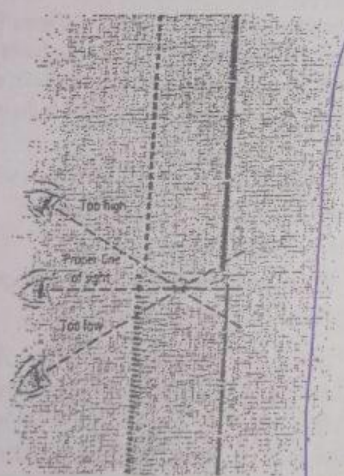
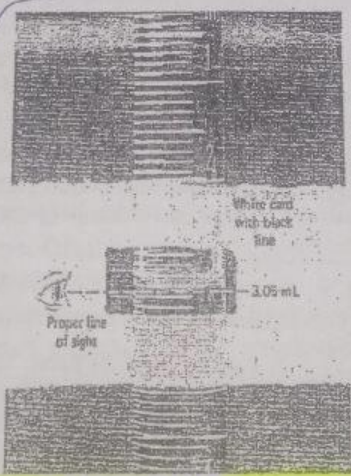

Figure T.16a Read the volume of a liquid with the eye horizontal to the bottom of the meniscus.
Figure T.16b Use a black line drawn on a white card to assist in pinpointing the location of the bottom of the meniscus.
1. **Reading a Meniscus.** For measurements of liquids in graduated cylinders, pipets, burets, and volumetric flasks, the volume of a liquid is read at the *bottom of its meniscus*. Position the eye horizontally at the bottom of the meniscus (Figure T.16a) to read the level of the liquid. A clear or transparent liquid is read more easily, especially in a buret, by positioning a black mark (made on a white card) behind or just below the level portion of the liquid. The black background reflects off the bottom of the meniscus and better defines the level of the liquid (Figure T.16b). Substituting a finger for the black mark on the white card also helps in detecting the bottom of the meniscus but is not as effective.